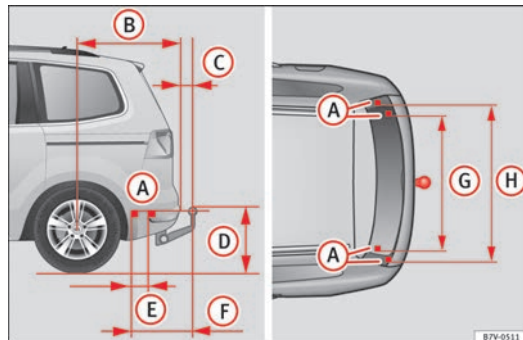

Fig. 160 Measurements and attachments to retrofit a tow hitch
In any case, the separation distances must be observed when fitting a tow hitch. The distance between the centre of the tow hitch ball and the road surface $\Rightarrow$ Fig. 160 (D) must never be lower than that indicated. This also applies when the vehicle is fully laden, including maximum drawbar load.
Separation distances $\Rightarrow$ Fig. 160: